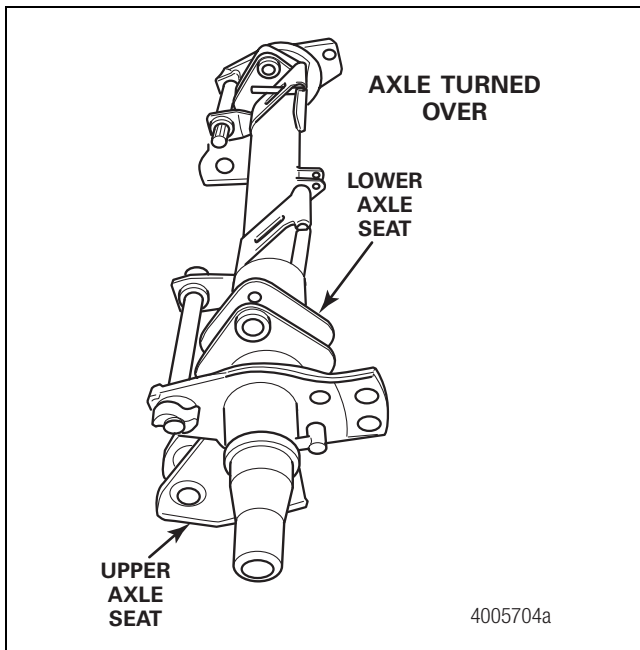

Figure 3
16. Turn the axle over. Set it on a flat surface, so that it rests on the air spring seats. Figure 3.